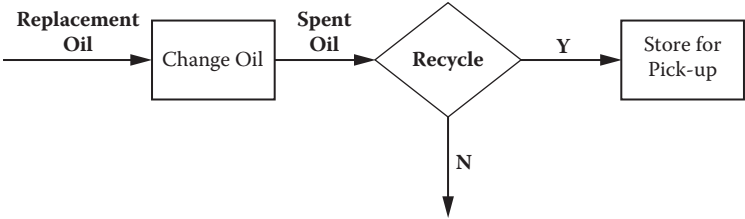

Figure 5.8 Symbol for decision with two branches.
5. Use the diamond symbol to indicate a decision (alternate branches and paths of flow). Often there are more than two options so label all the branches (Figure 5.8).